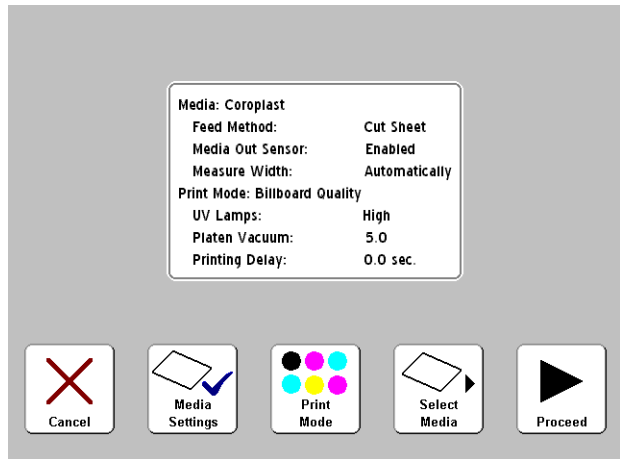

Fig. 2-1. Media settings screen
- If you pressed a **media name**, a list of settings appears (see Fig. 2-1). From this screen you can change the Media Settings, change the Print Mode, Select Media again, or Proceed to loading the media. To load media, press the ► (Proceed) key and go to “Load and Print on Rigid Media” on page 2-10 or “Load and Print on Roll-Fed Media” on page 2-15.